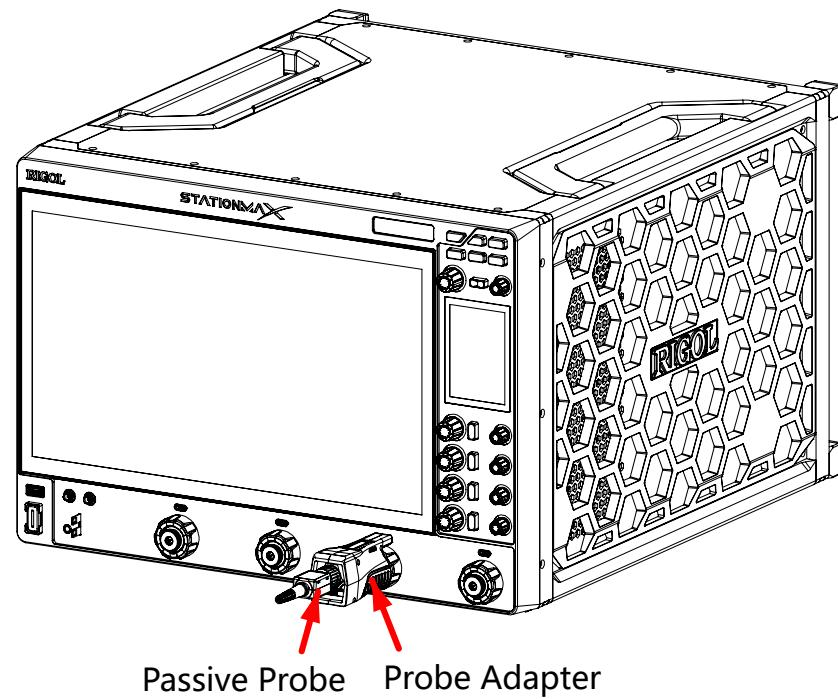

Figure 5.2 To Connect the Passive Probe
1. Connect the BNC terminal of the probe to an analog channel input terminal on the front panel of the oscilloscope, as shown in *Figure 5.2*.